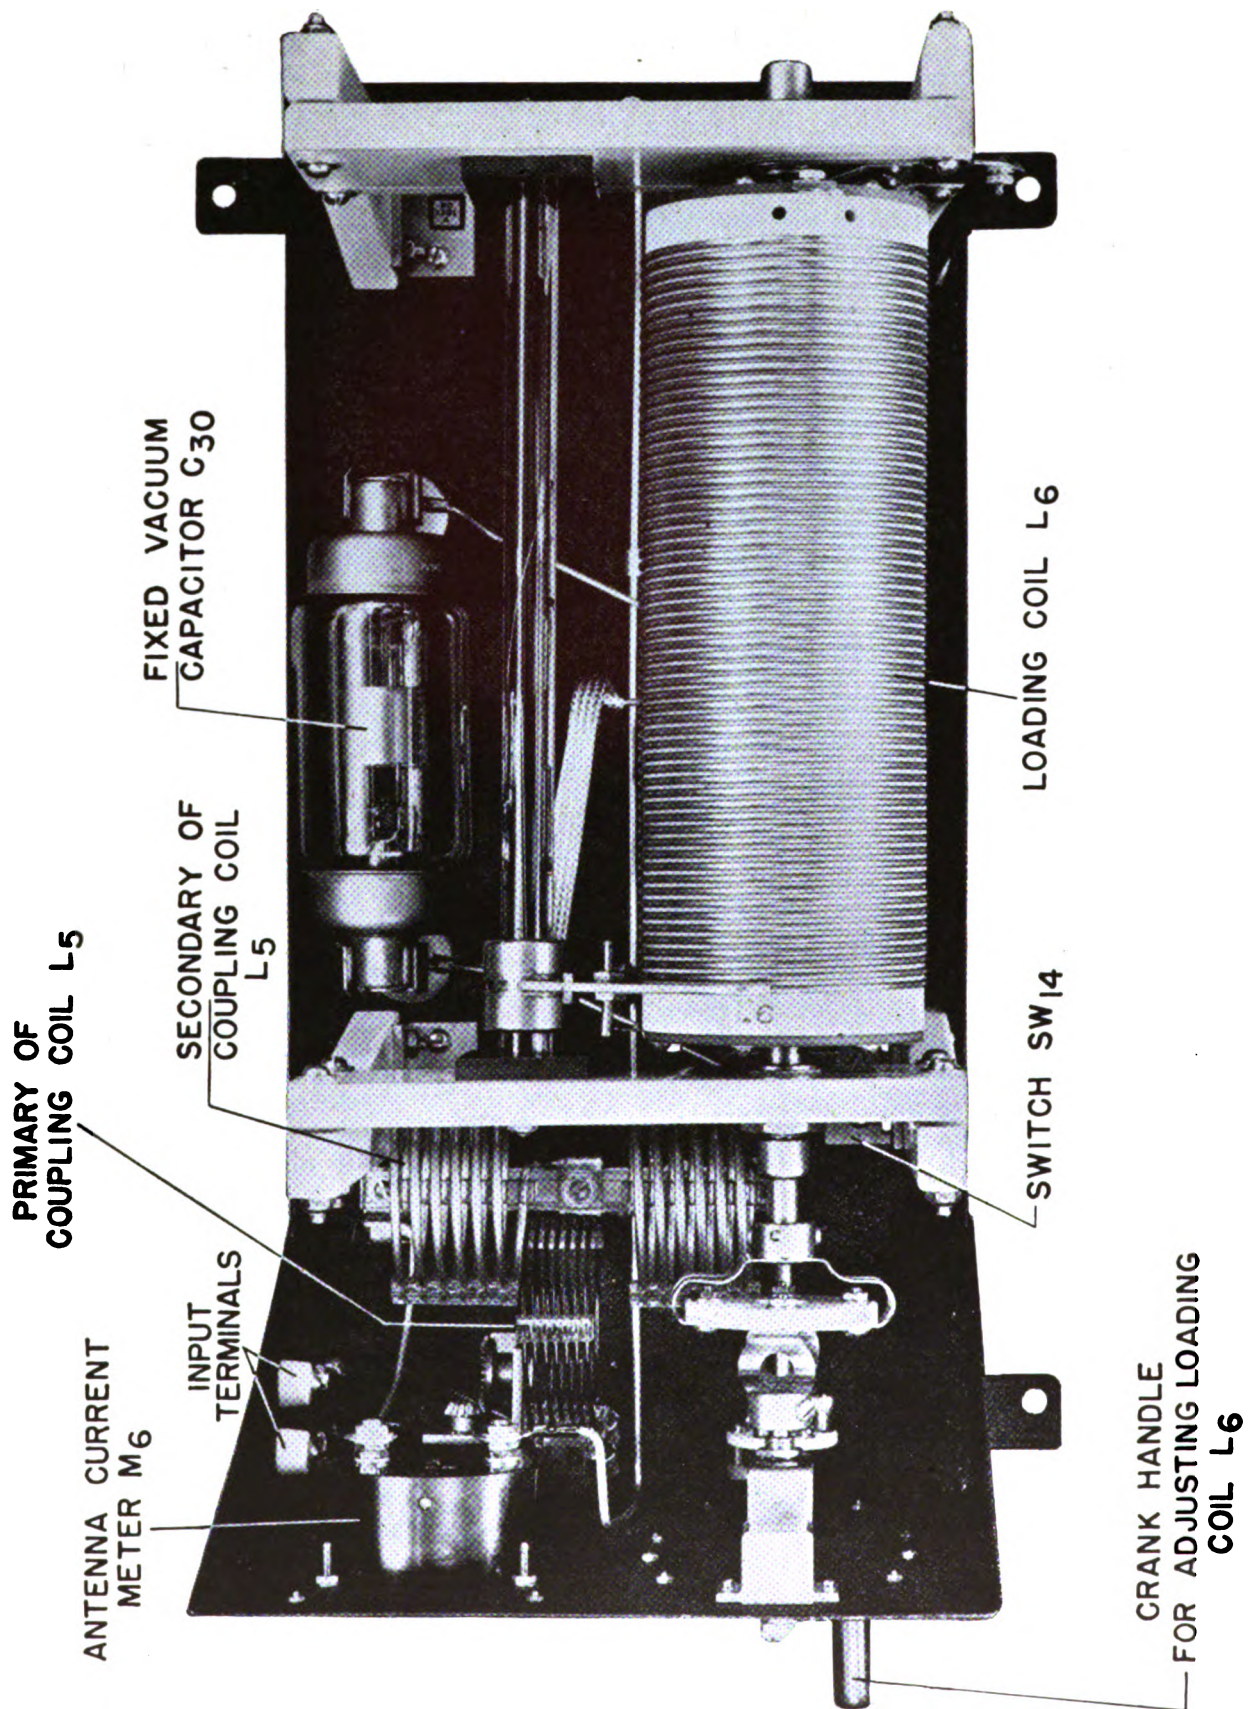

FIGURE 40. ANTENNA TUNING UNIT BC-729-(*), TOP VIEW.
a. **Mechanical Construction.**— Antenna Tuning Unit BC-729-(*) (see figures 40 and 63) is constructed on a metal base and metal panel with all of the principal components supported on heavy ceramic insulation. The antenna tuning unit mounts on top of the radio transmitter and couples the output of the transmitter to the whip antenna on top of the truck. Due to the tremendous radio frequency voltages developed in the antenna tuning unit, no cover is practicable without affecting the compactness of the installation. The chief components are a loading coil which is continuously variable, a coupling coil, an antenna current ammeter, and a fixed vacuum capacitor which may be switched in or out of the circuit. All controls are on the front panel. The variable antenna series loading coil is controlled by a large crank handle on the front panel which has a counting device that indicates directly the number of turns of the coil to a fraction of a turn. The connection between the transmitter and the antenna tuning unit is a low impedance transmission line. *The connection between the antenna tuning unit and Mast Base MP-47 is a short flexible lead which must be kept clear of the surrounding equipment due to the extremely high voltage it carries.*
- (1) The coupling between primary and secondary of coupling coil L_5 is controlled from the front of the panel, and adjusts the amount of power taken from the transmitter and fed to the antenna circuit. With the antenna circuit tuned